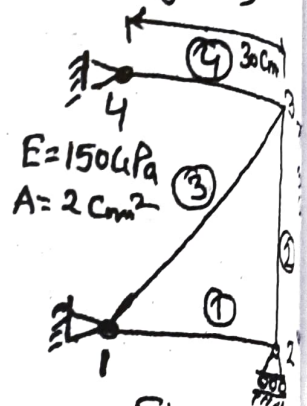

Fig 5
Q5: A truss shown in the figure 5 is loaded with a force of 1000 kN at node 2 in the x direction. Write down (i) Element stiffness matrix (ii) Combined stiffness matrix (iii) Nodal displacements (iv) Element stresses for element no. 2 and 3 (v) Reaction force at node 2. (10)